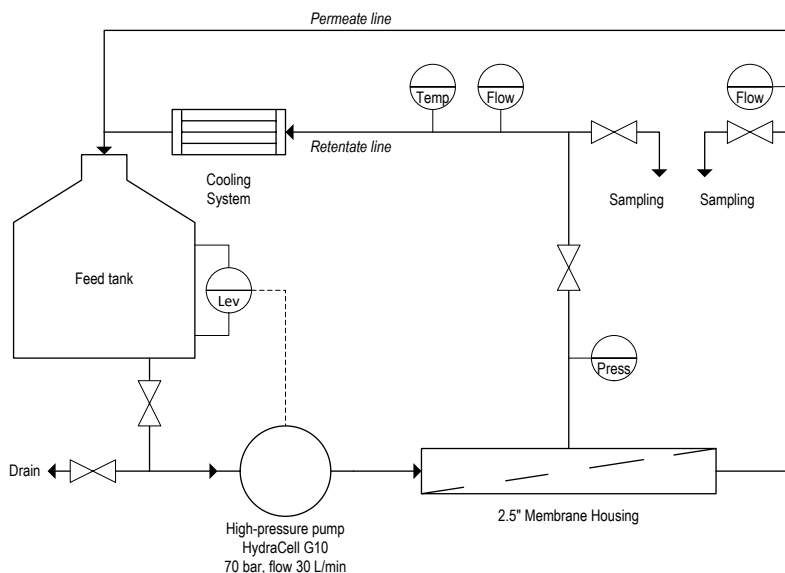

Fig. 3 Schematic diagram of NF system
- 3.1 Proper start-up of the membrane system is essential to prepare element for operations and to prevent damage from excessive pressure, flow volume or hydraulic shock. Schematic diagram of the NF membrane system is presented in Fig. 3.